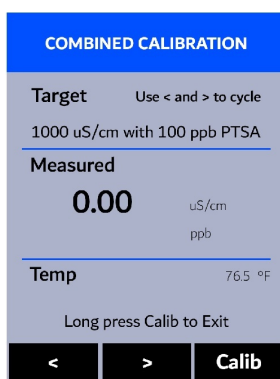

Figure 13.
3. Press **C-Cal** () to launch the **COMBINED CALIBRATION** screen (Figure 13).